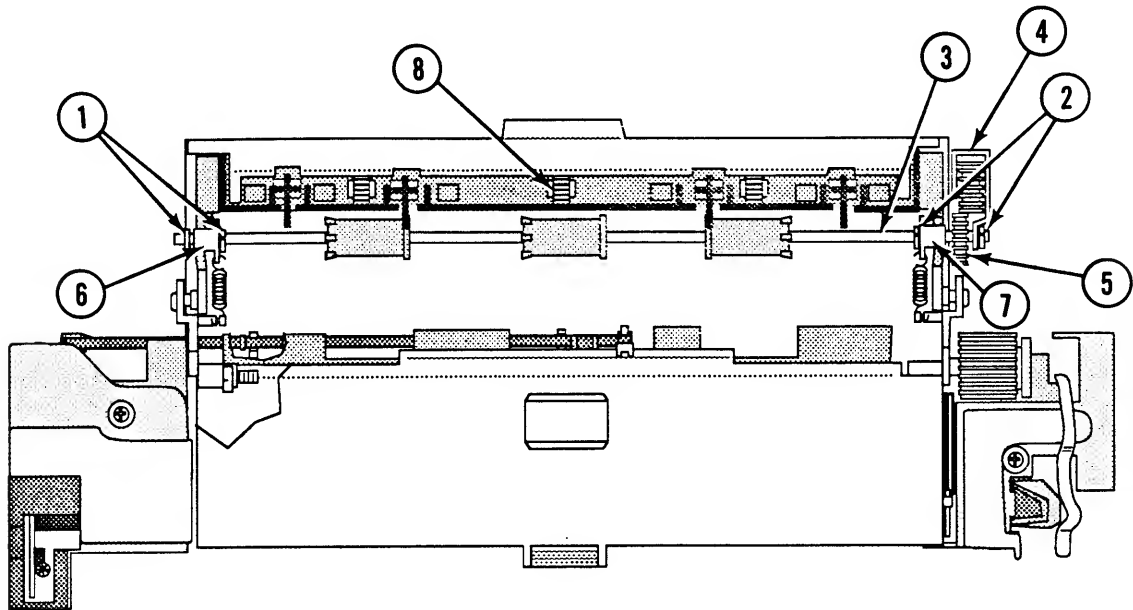

FIGURE 22
2. Using the screwdriver, remove the four C-rings (Figure 22, #1 and #2) that secure the delivery roller to the fuser delivery assembly.
3. Slide the delivery roller shaft (Figure 22, #3) away from the gear arm (Figure 22, #4) and lift the gear arm off the shaft.
4. Remove the delivery roller gear (Figure 22, #5) from the delivery roller shaft.
5. Push the bushings (Figure 22, #6 and #7) toward the center of the delivery roller shaft.
1. Place the three upper delivery rollers (Figure 22, #8) into the openings in the fuser delivery assembly.
2. Place a bushing (Figure 22, #6 and #7) on each end of the delivery roller shaft so that the flat surface is toward the center of the shaft.